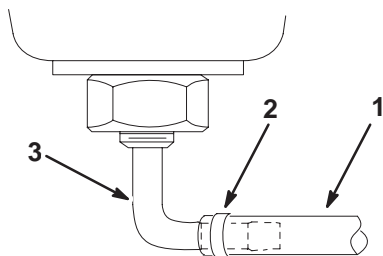

Figure 3
3. Push the fuel line onto the fuel tank connection and secure it with the hose clamp that is on the fuel line (Fig. 3).
Note: Make sure the fuel line and clamp are on as shown in Figure 3.